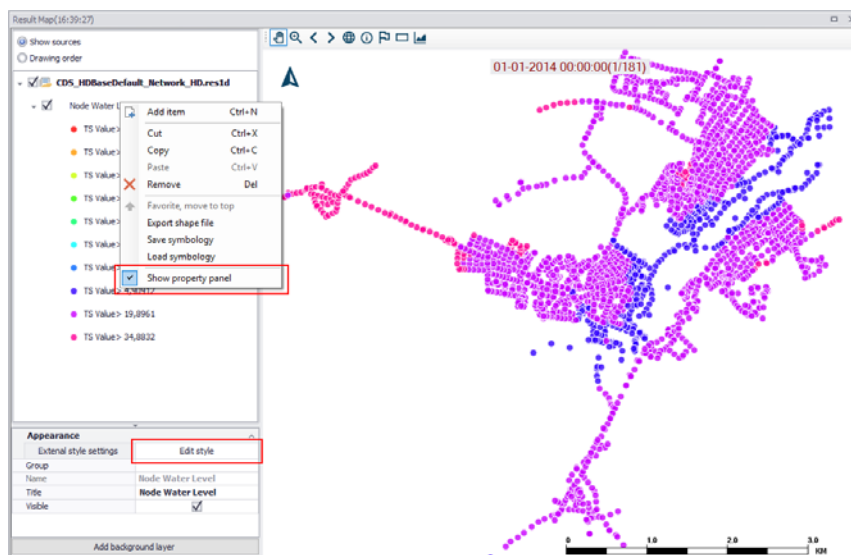

Figure 20.16 Edit a result layer symbology and label via the 'Edit style' button
- On the left panel of the result plot, right-click on the result item layer and choose 'Show property panel' from the local context menu. The property panel appears at the bottom left corner of the window (Figure 20.16).
- Click the 'Edit style' button in this property panel (Figure 20.16).